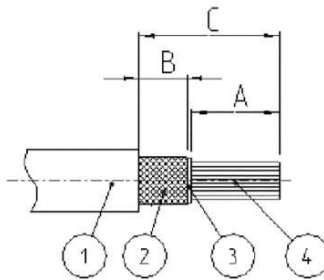

Figure 5: cutting cable to length
Step 2/步骤二 Strip and remove outer sheath, screening braid (if present screening foil), inner sheath and conductor from the end as shown in figure 5.
如图5所示，切开并去除外绝缘皮，屏蔽编织物（如果存在屏蔽箔），内绝缘皮和导体。